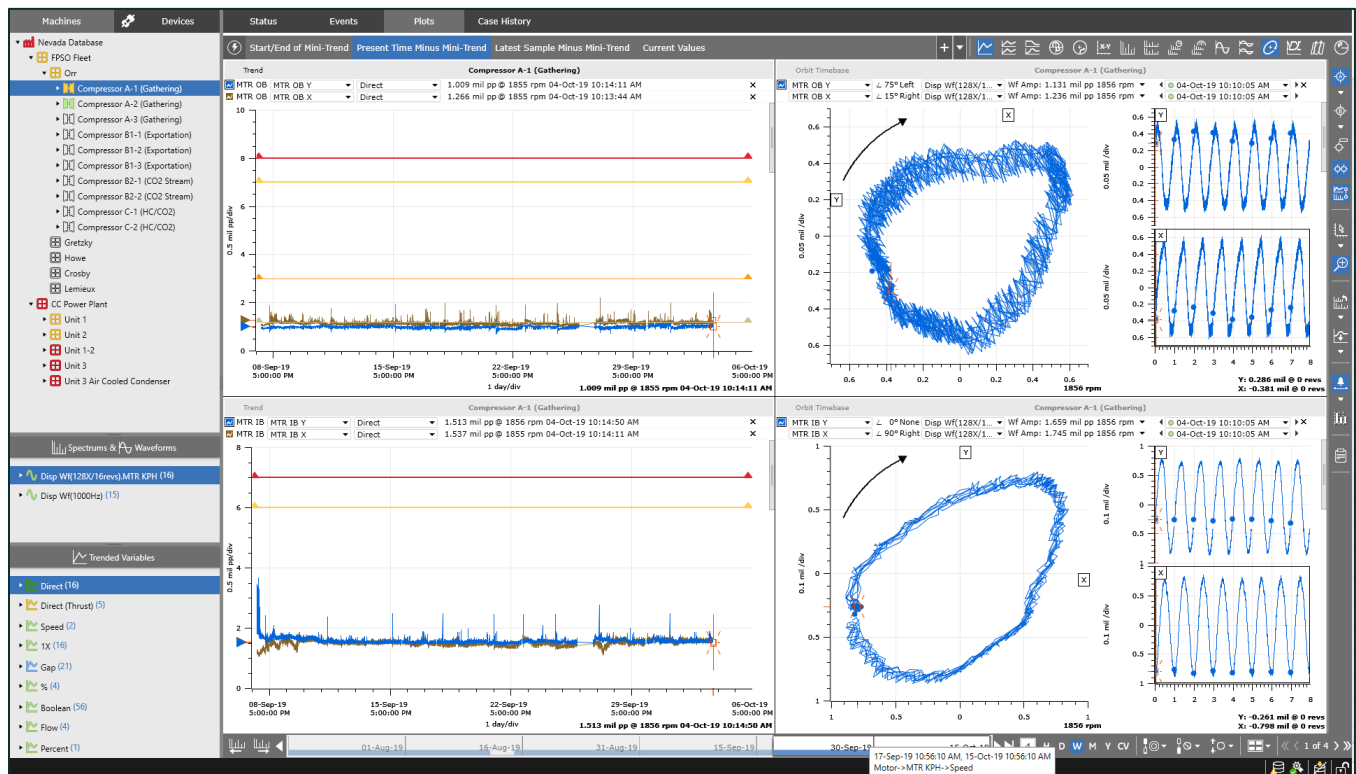

Figure 55: "Present Time Minus Mini-Trend Range"
- "Present Time Minus Mini-Trend Range", the Defined Plot Set is loaded with a time range of 4 weeks with the span ending at present time. In the example figure, present time was 15-Oct-2019 (Figure 55).